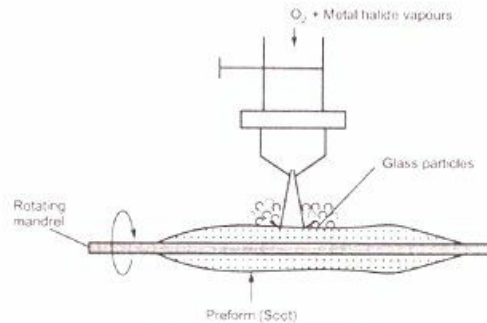

Fig. 1.8.5 OVPO process
- Fig. 1.8.5 shows this process.